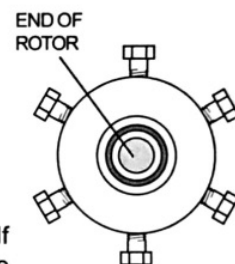

Figure 2: Valve with preload removed
2. Engage the end of the rotor (**Figure 2**, next page) with a pencil-type magnet, available from Valco or any electronic components supplier. Cycle the valve one time to break the "shear seal" between the rotor and the valve body.